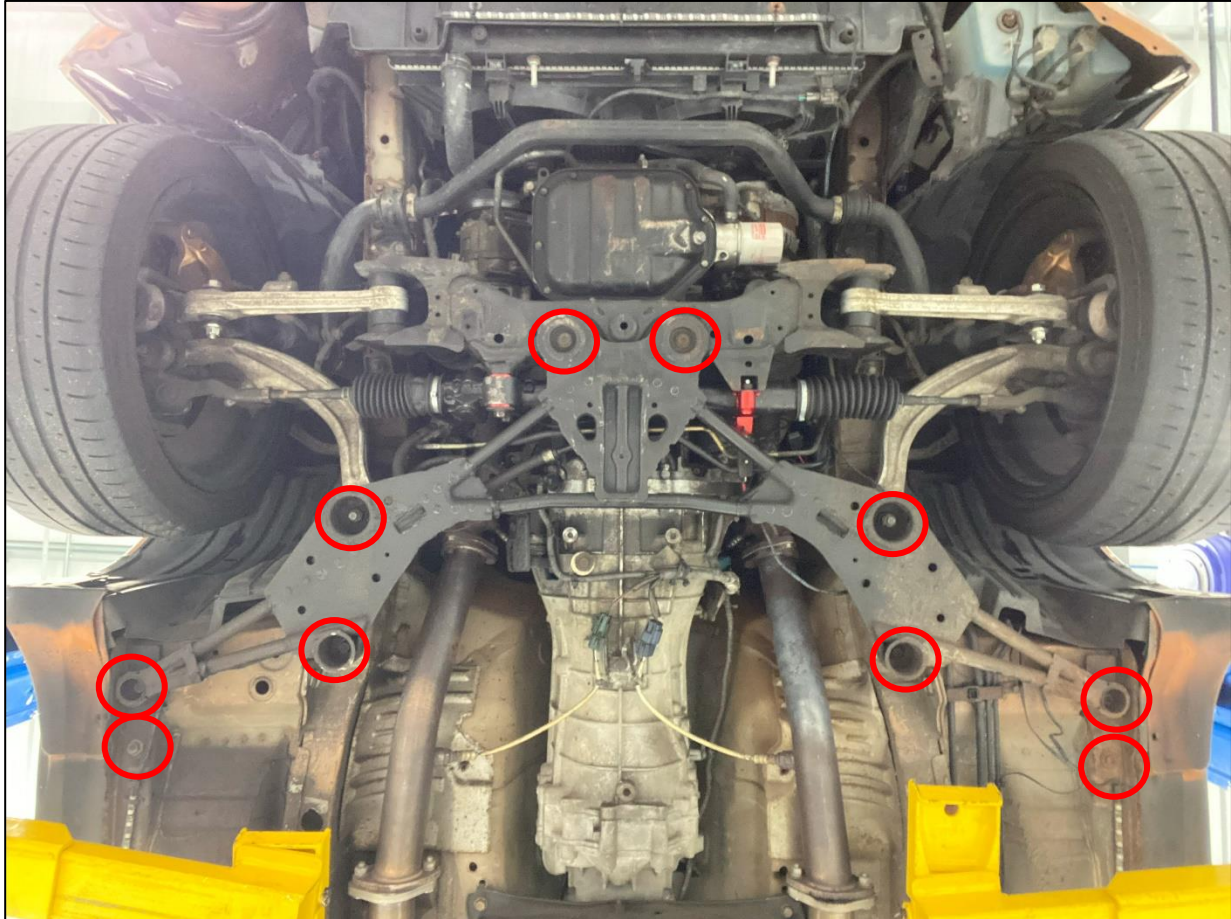

Figure 4
3. Remove the (8) eight bolts circled below and remove the OE Front Subframe Brace from the vehicle. Retain the (2) two nuts removed from the Compression Arm mount. *Figure 4.*